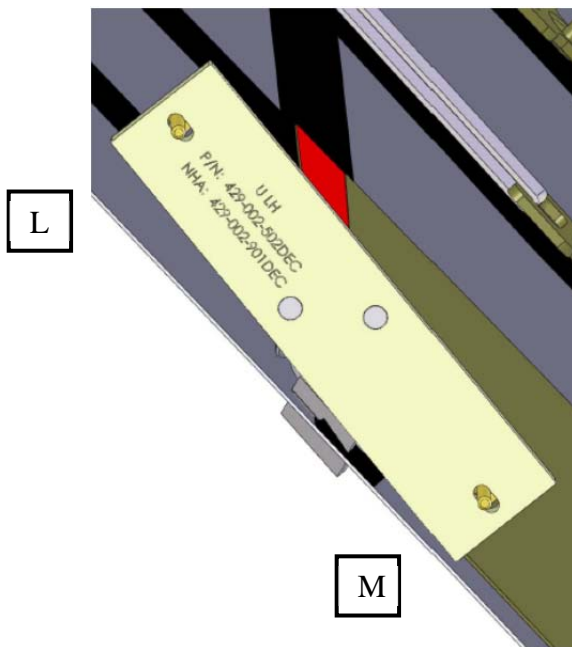

Figure 7.8.1
- 7.8** Continue with the upper left hand (**U LH**) bracket assembly. Install the liner screw at location '**L**' through the top slot of the bracket until it is hand tight and will assist in holding the bracket out of the way while the second screw at location '**M**' is installed. Torque all screws to 18-22 in-lbs each. See Figure 7.8.1.